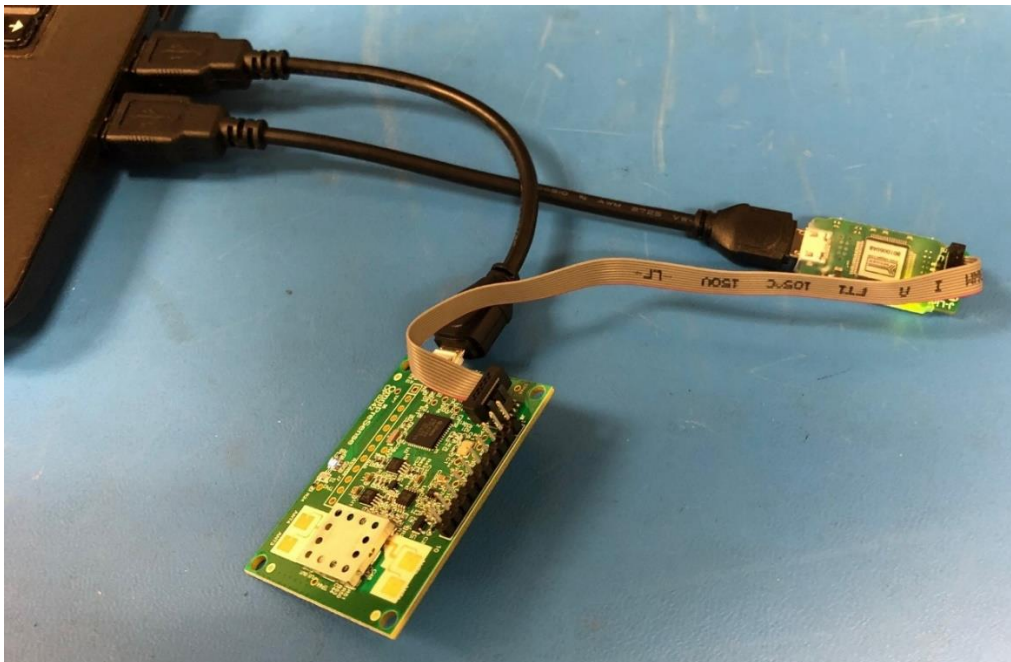

Figure 5. USB and JTAG Connections to PC
Step 3. Plug in the USB connector of the JTAG programmer into a USB port on the PC. If the ribbon cable that came with the Segger programmer was not plugged in, connect it. The connector on the programmer is not keyed. The connector on the cable should be mounted so that the cable goes away from the programmer board as show in (Figure 5). Plug in a USB micro cable into the OPS241/OPS242/OPS243 and the other end into another USB port on the PC. This provides power to the OPS241/OPS242/OPS243 during the program update.